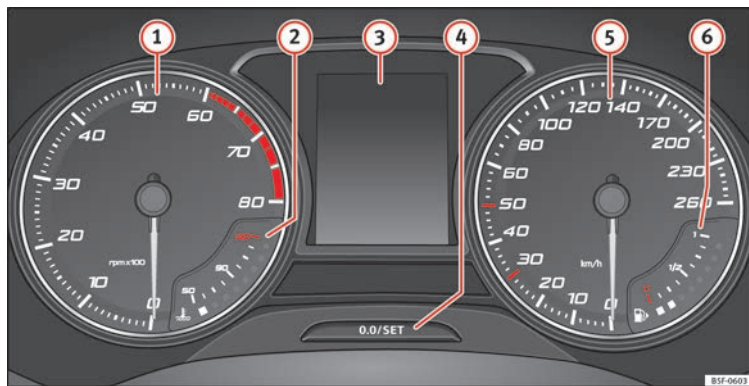

Fig. 110 Instrument panel, on dash panel
Details of the instruments » Fig. 110:
The rev counter indicates the number of engine revolutions per minute » **Fig. 110 ①**.
Never allow the rev counter needle ① » **Fig. 110** to go into the red zone on the scale for more than a very brief period, otherwise there is a risk of engine damage.
A variety of information can be viewed on the instrument panel display » **Fig. 110 ③** depending on the vehicle equipment:
- Briefly press the button » **Fig. 110 ④** to reset the trip recorder to 0.
- Keep the button ④ pressed for about 3 seconds and the previous value will be displayed.
- To set the time, keep the button **» Fig. 110 ④** pressed for more than 3 seconds to select the hour or minute display.
- To continue setting the time, press the upper or lower part of the button **④**. Hold button down to scroll through the numbers quickly.
- Press the button **④** again in order to finish setting the time.
Hold the button **» Fig. 110 ④** down for more than 15 seconds to display the identifying letters of the vehicle engine (MKB). To do this, the ignition must be switched on and the engine switched off.
The coolant temperature gauge **②** » **Fig. 110** only works when the ignition is switched on. In order to avoid engine damage, please read the following notes for the different temperature ranges.